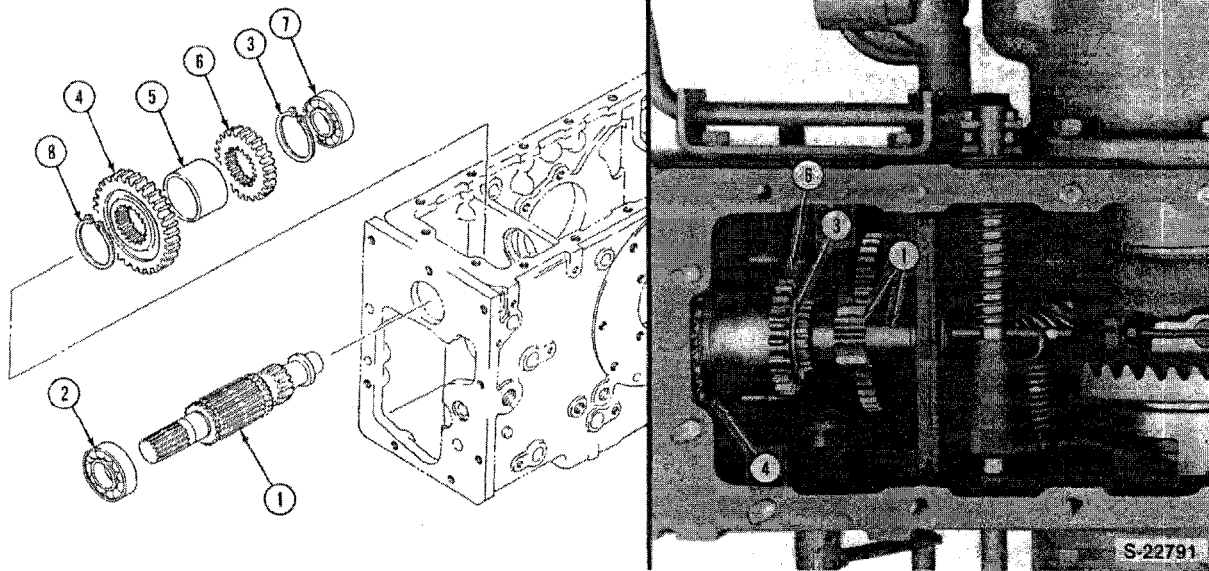

Figure 27
Reference — Figure 27
1. Install the rear main shaft with the fixed gears, snap rings, spacer and bearings as shown, Figure 27.